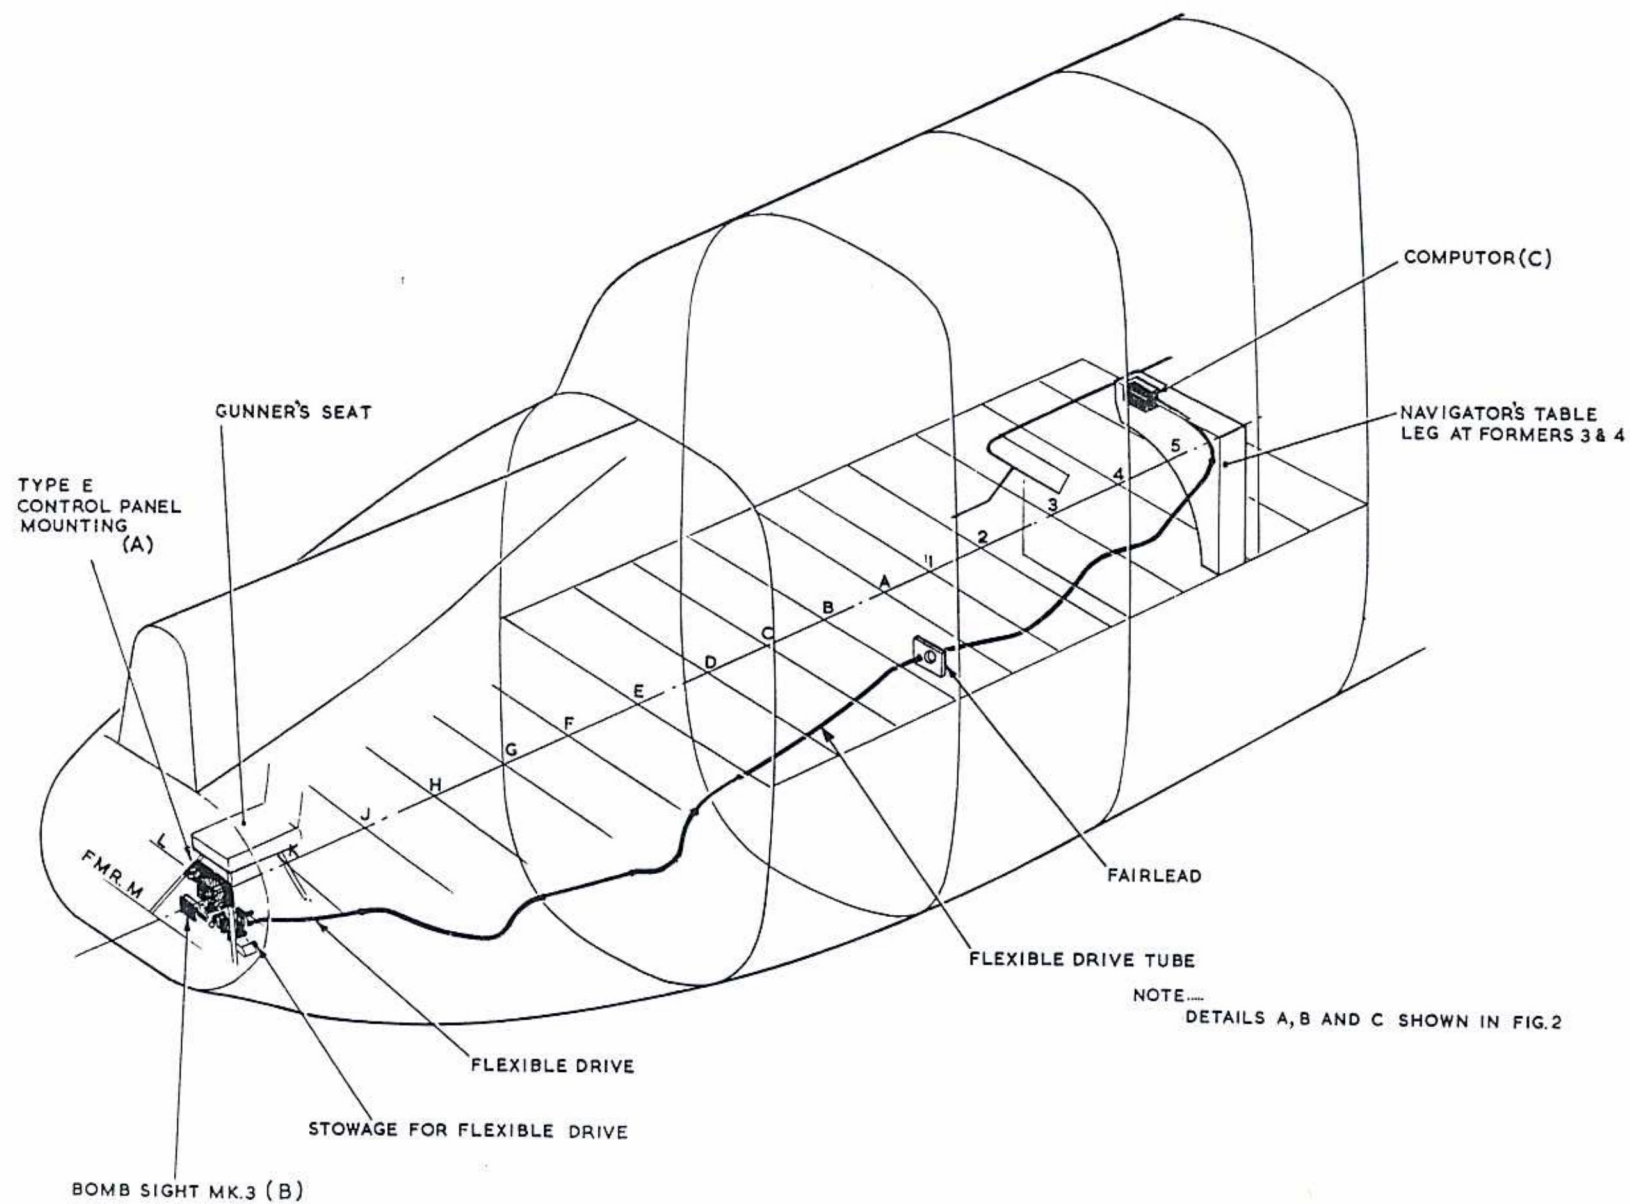

Fig. 1 Location of bombsight equipment
10. The control panel, Type E, is located in the recess formed by the gunner's seat support tubes, above the air bomber's window. To the port of, and adjacent to the control panel is a stowage lamp holder assembly providing stowage for four bombsight lamps. The complete installation is illustrated in fig.1 and 2.